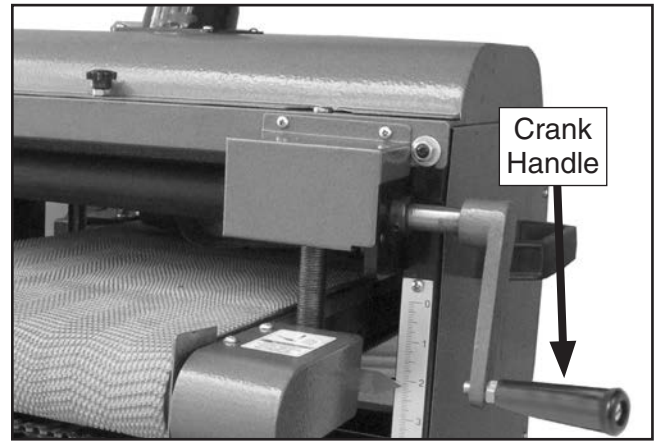

Figure 15. Setting depth of cut.
1. Rotate the crank handle (**Figure 15**) until the conveyor table is well below the sanding drum, place the workpiece on the table, then raise the table, until the front pressure roller just touches the top of the workpiece.